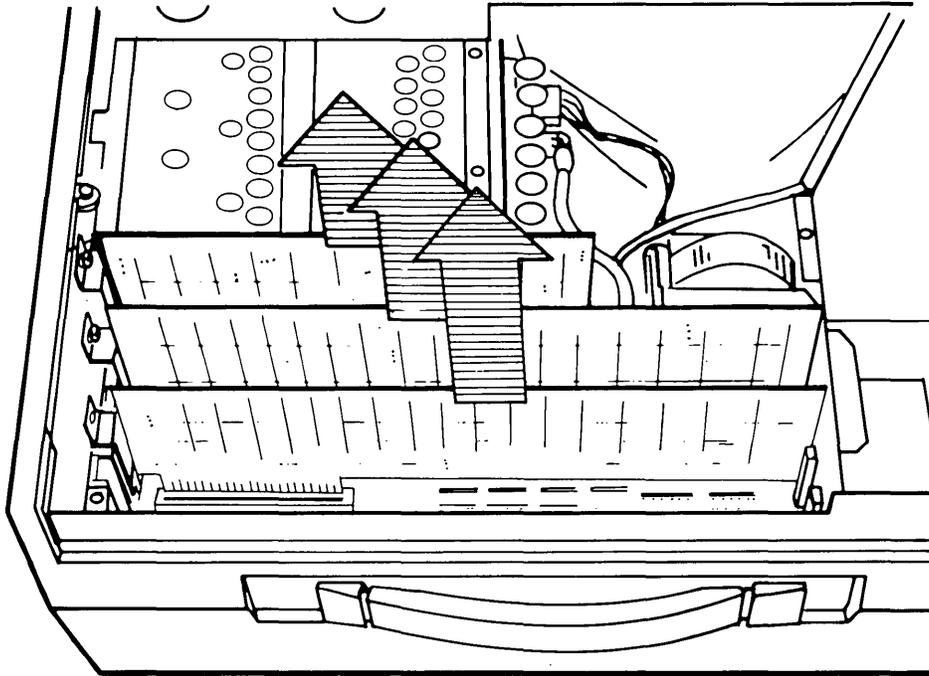

Figure 10-15. Removing the Fixed Disk, Floppy/Printer and the VDU Adapter Boards.
- 8 Gently remove the adapter boards by pulling them away from the processor board (see Figure 10-15).